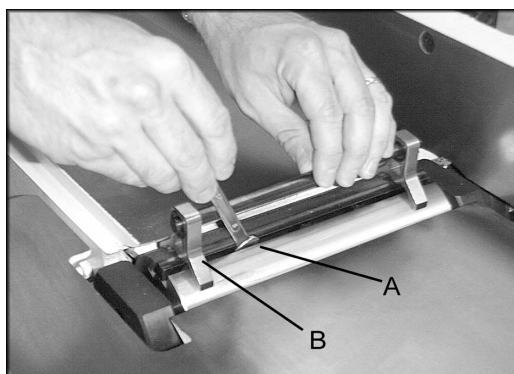
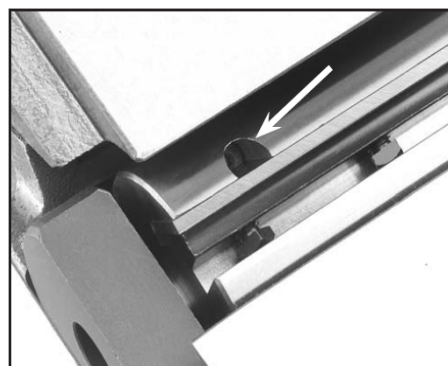

Figure 12
Figure 13
7. If blade is higher or lower at one point, Loosen cutterhead gib bolt (A, Fig. 12) by turning clockwise as viewed from the infeed table.
8. Place the knife setting gauge (B, Fig. 12) on the cutterhead over the blade. Find the jack screws through the access holes in the cutterhead(Fig. 13) and rotate the jack screws to raise or lower the knife. When the knife is set correctly, it will bearly touch the middle pad of the knife setting jog. Snug the gib bolts tight enough to just hold the knife in place. Repeat STEP 7&8 with the rest of the knives.